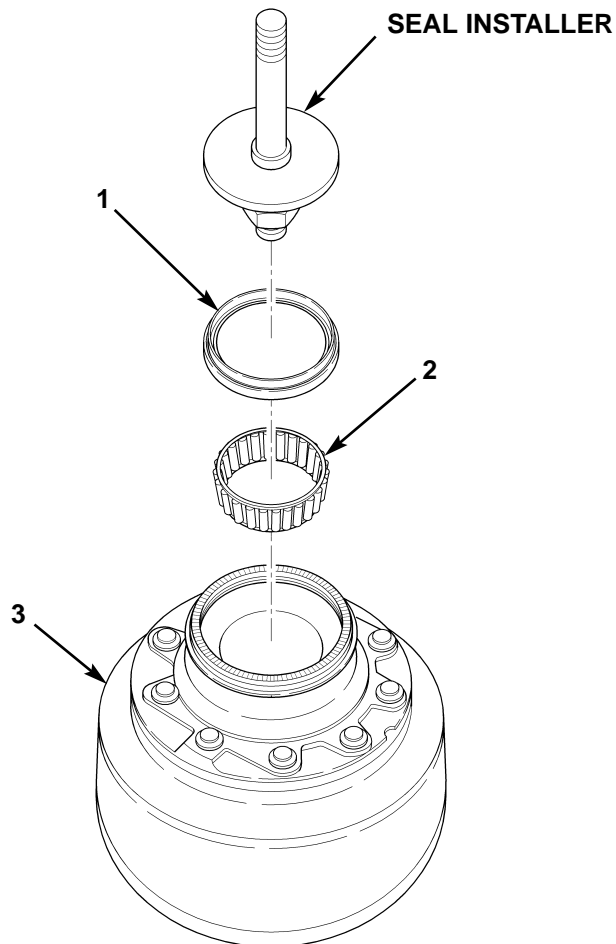

Figure 4. Installing Inner Bearing Cone and Seal.
5. Apply grease to inner bearing cone (figure 4, item 2) and set inner bearing cone (figure 4, item 2) on inner cup in rear hub (figure 4, item 3).
6. Apply sealant to outside edge of new seal (figure 4, item 1) and position seal (figure 4, item 1) on rear hub (figure 4, item 3) with tapered side of seal facing up.
7. Using seal installer, drive seal (figure 4, item 1) into shoulder bore of rear hub (figure 4, item 3) until fully seated.